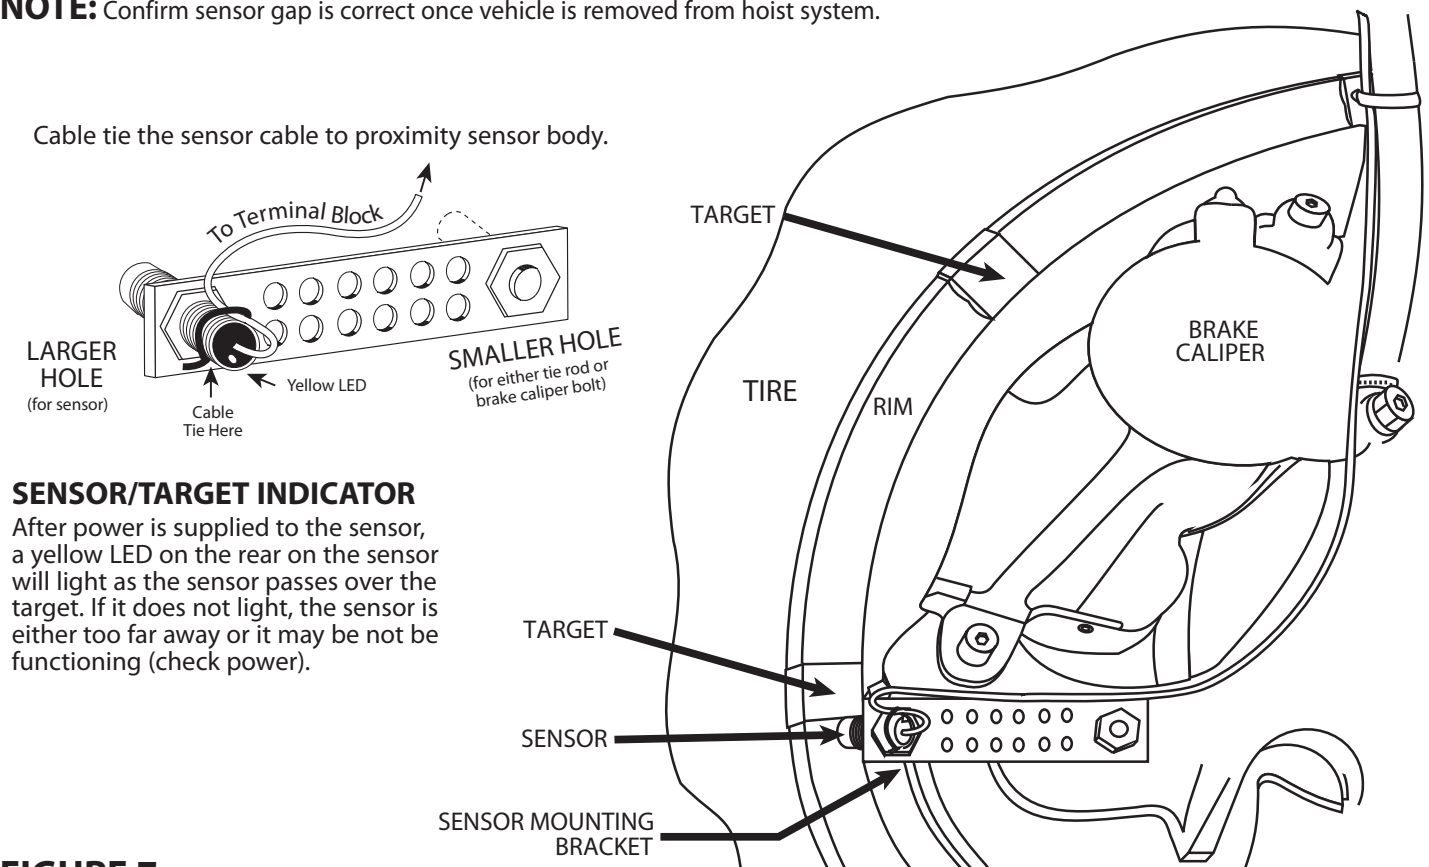

FIGURE 7:
STEP 5 : As illustrated in **FIGURE 7**, the bracket will most likely need to be bent at an angle for proper sensor alignment. Some trial and error will be required to properly position the sensor squarely in front of the targets. You should always check this alignment after any work is done to the assembly.